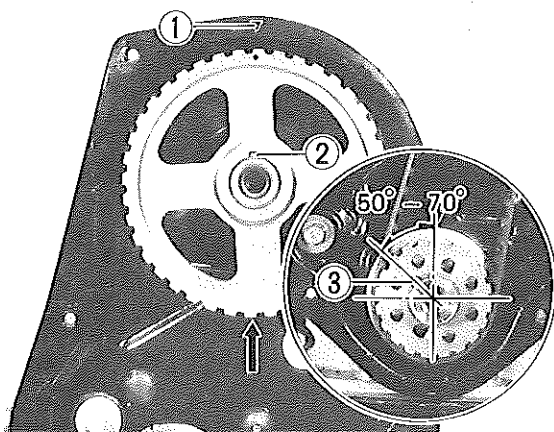

Fig. 4-136
Before installing the pulley as above, check to be sure that crankshaft keyway ③ is in the $50^{\circ} - 70^{\circ}$ range, as shown in Fig. 4-136.